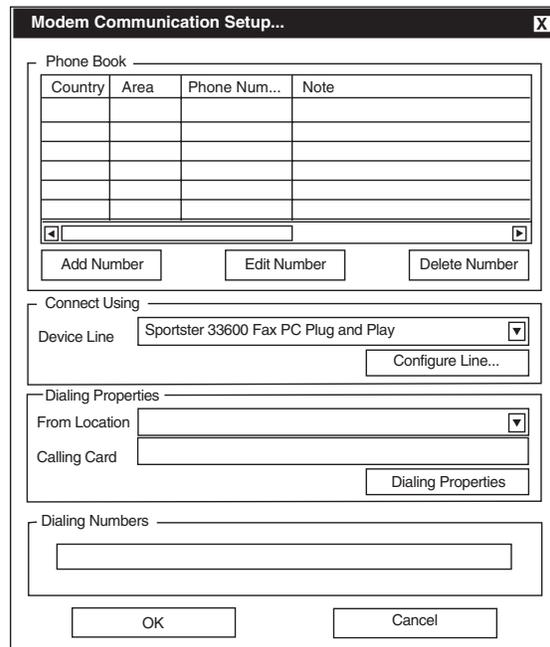

Figure 9-12 Modem Communication Setup
- a. Ensure that the correct modem is displayed, then select **Setup**, GE-2029A will display the **Modem Communication Setup** screen (Figure 9-12).